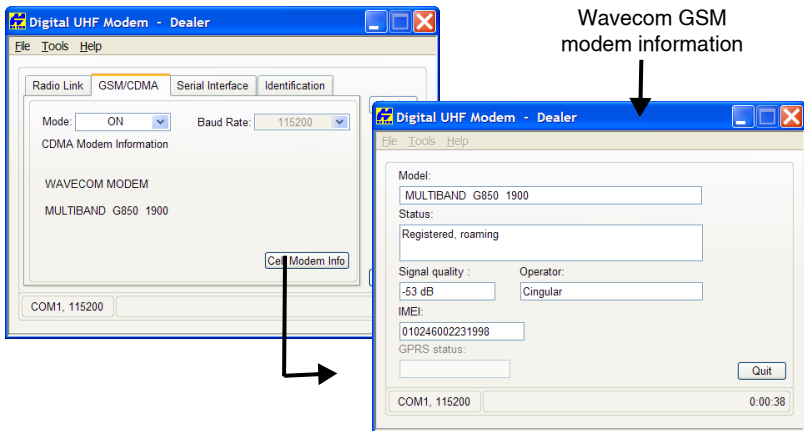

Figure 3-11. Enable the GSM Module/View GSM Parameters
3. On the *GSM/CDMA* tab, set the following parameters (Table 3-7 on page 3-18), and click **Apply** (Figure 3-11 on page 3-19).
The Wavecom GSM modem can either be in the US GSM band (GSM 850/1900 MHz as in Figure 3-11 on page 3-19) or the European GSM band (900/1800 MHz).
5. Click on the *GSM/CDMA* tab (Figure 3-11 on page 3-19) to view GSM modem information, and then click **Quit** to return to the previous screen.
7. Click **Apply** (Figure 3-11), and then click **File ► Disconnect**.